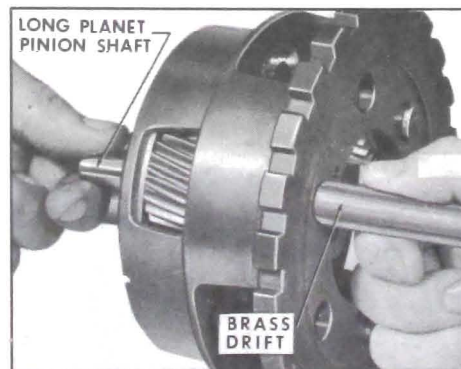

Figure 5-264
9. Insert Brass Drift through long planet pinion. Remove the long planet pinion shaft. See Figure 5-264.